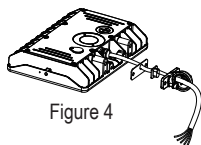

Figure 4
**Step 1:** Pull the wire through the metal spacer, rubber gasket and top half of the knuckle bracket. Install the top half using the 2 screws provided and an Allen key (3/16). (Figure 4,5)